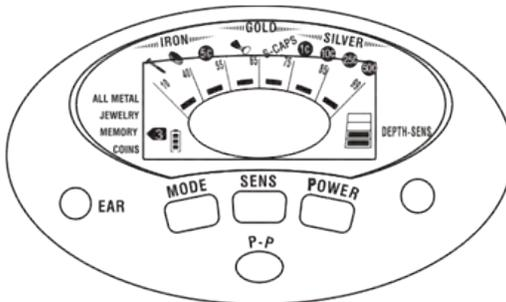

Fig.12
- Press the MODE button again, the operation mode cursor points to MEMORY. The target ID cursor (upper cursor) is extinguished, and the target identification cursor (lower cursor) is all lighted. (See Fig.12)
- f) If want to look for other materials, press the "MODE" button once again, so that the operation mode still points to MEMORY, and still shows figure 12. Then, repeat the above operation.
- g) At this time, in order to exit MEMORY mode, press the MODE button, let the detector be back to the state of figure 12. Press the MODE button, exiting the MEMORY mode, and go into the next operation mode.